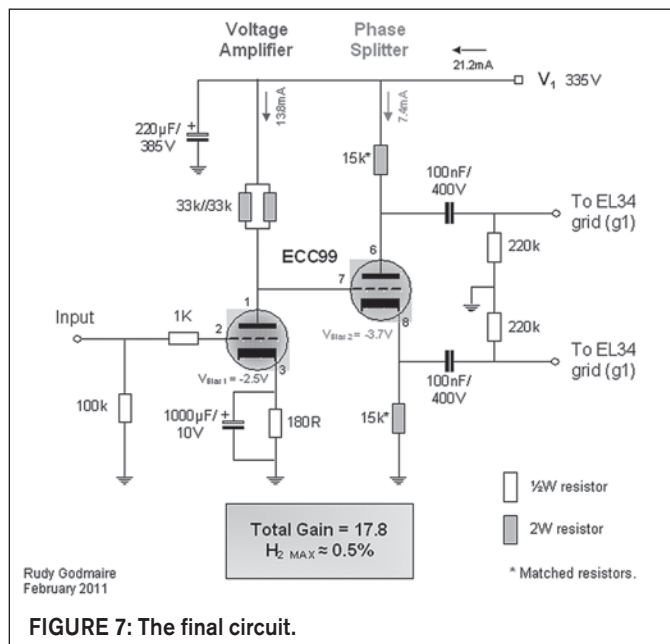

FIGURE 7: The final circuit.
**Figure 7** shows the final design of the input circuitry developed in this article. This optimized circuit can be utilized as is in the VDV-6040 and the VDV-3070 amplifiers proposed by Menno van der Veen in his book. Using the aforementioned methodology, you may design an optimized circuit for any amplifier having a different voltage swing requirement for the output tubes. For those
I have presented my VDV amplifiers as if they were using a single push-pull output stage. In fact, these are VDV-3070 amplifiers that use a double push-pull topology. Should you use a parallel configuration as I do, you simply double the value of  $R_g$  and halve that of  $C_c$  in **Fig. 7**. Aside from this, the rest of the circuitry is identical. In both cases, the suggested values will give a -3dB cutoff frequency of 7Hz.